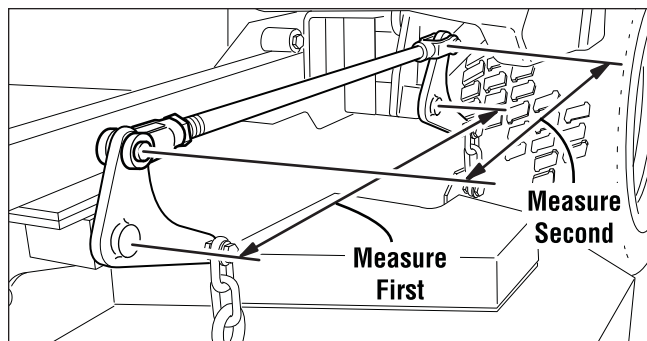

Figure 38. Check Lift Rod Timing
2. To check the lift rod timing, measure and record the distance between the lift pivots and the rod pivots. Repeat for other side of unit. See Figure 38.